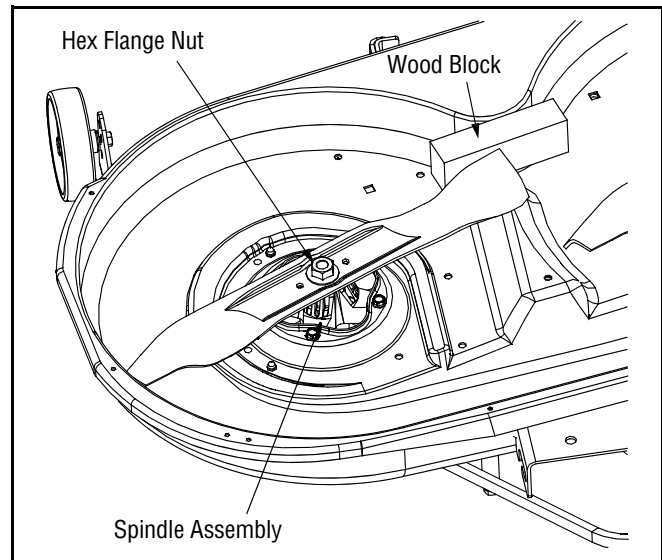

Figure 22
- Place a block of wood between the center deck housing baffle and the cutting blade to act as a stabilizer. See Figure 22.
- Remove the hex flange nut that secures the blade to the spindle assembly by turning it counter-clockwise. See Figure 22.